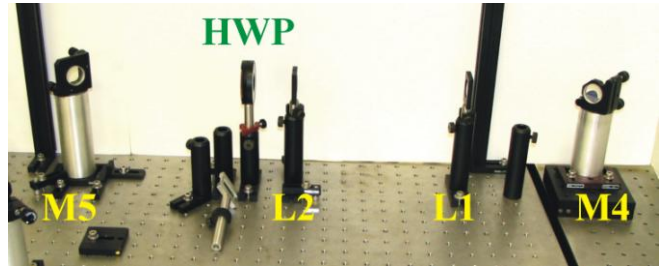

FIGURE 14
12. Remove the second 3" post holder from the table once the beam is reduced in size, collimated and aligned through both irises. Return mirror M5 to its original position (against the kinematic stops on the table as shown in FIGURE 14), and return the half-wave plate (HWP) into its post holders. Make sure that the beam passes through the middle of HWP and hits the center of M5. If necessary adjust the lateral position of M5 and height of the HWP.